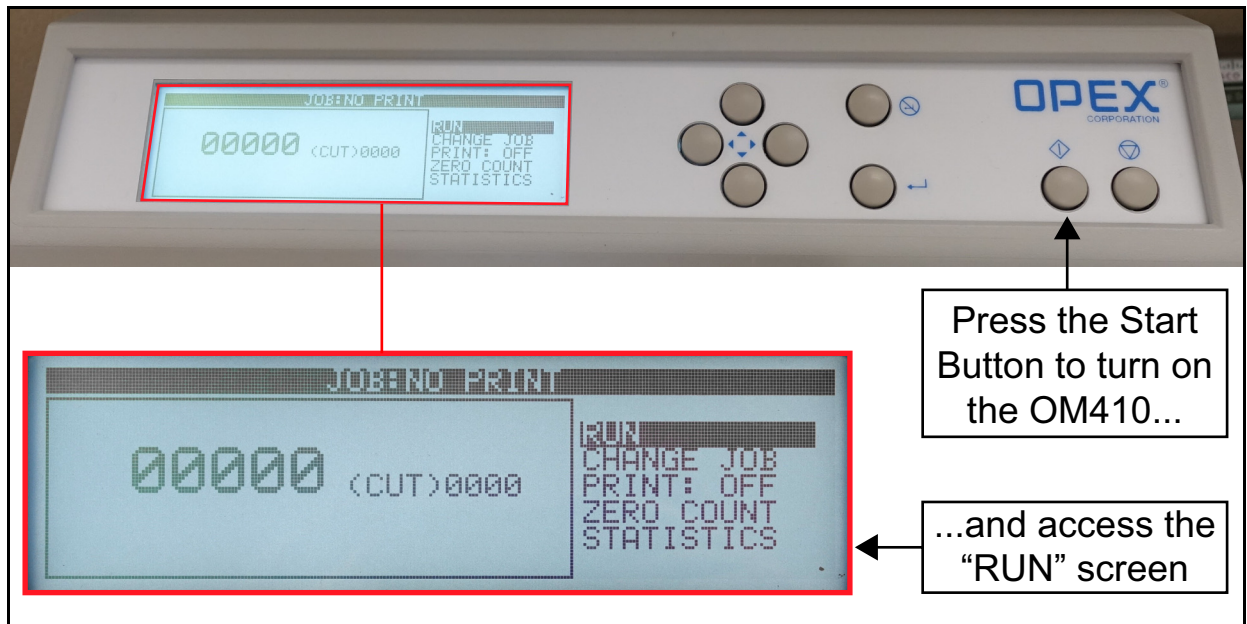

Figure 3-7: Start Button
4. Press the **Start button** to turn the OM410 on (Figure 3-7). This will bring up the **RUN** screen.